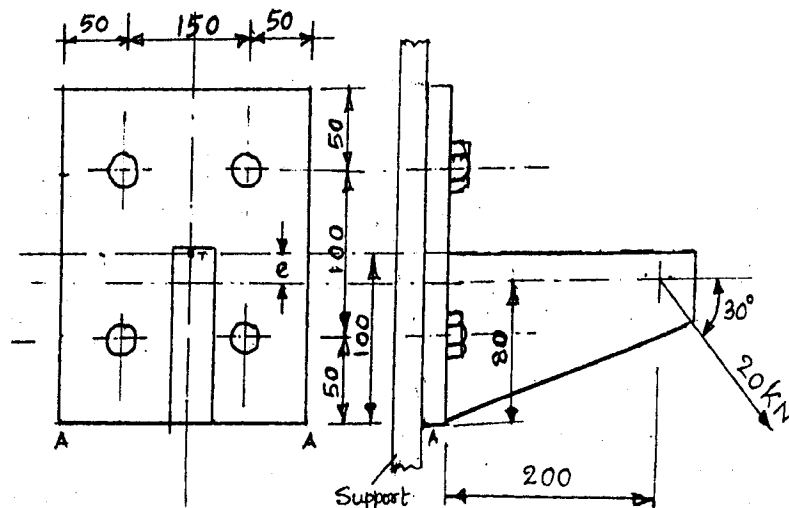

Fig.Q4(b)
- b. Determine the size of the bolts for the loaded bracket shown in Fig.Q4(b), if the allowable tensile stress in the bolt material is limited to 80 MPa. (12 Marks)